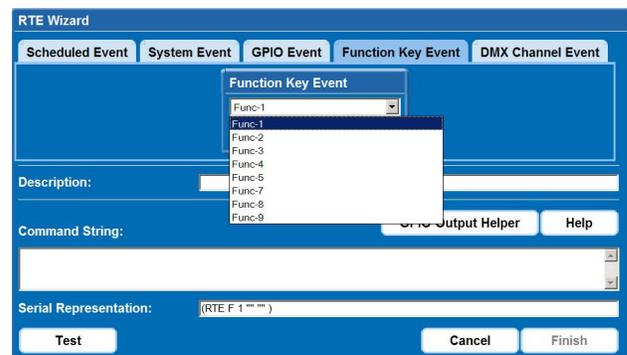

Figure B-18 Function Key Event
3. Select a **Func** (function) key from the drop-down list as shown in Figure B-18. Refer to Section 3 Operation for detailed information.